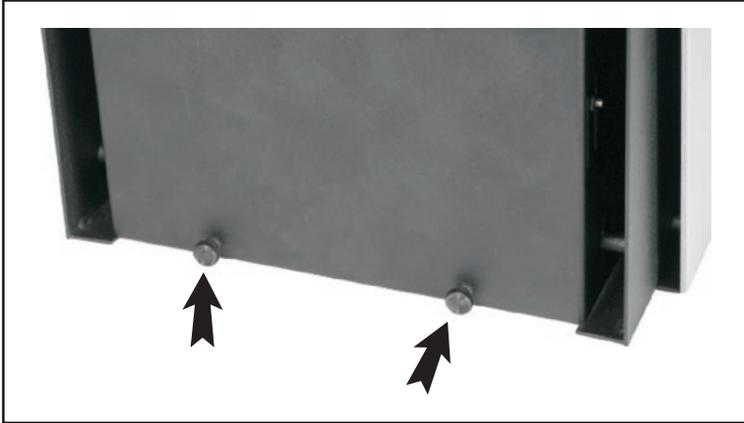

Figure 7: Bolts for adjusting the feeder angle
6. Use the adjustment tool to loosen the nuts on the opposite side of the two adjustment bolts shown in Figure 7.